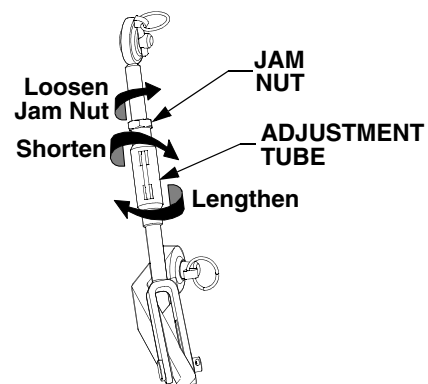

Figure 27
- Adjust the RH adjustable lift link to *level* the lower hitch links. Loosen the jam nut and turn the adjustment tube as shown in Figure 27 to shorten or lengthen the lift link. Tighten the jam nut against the adjustment tube after adjusting.